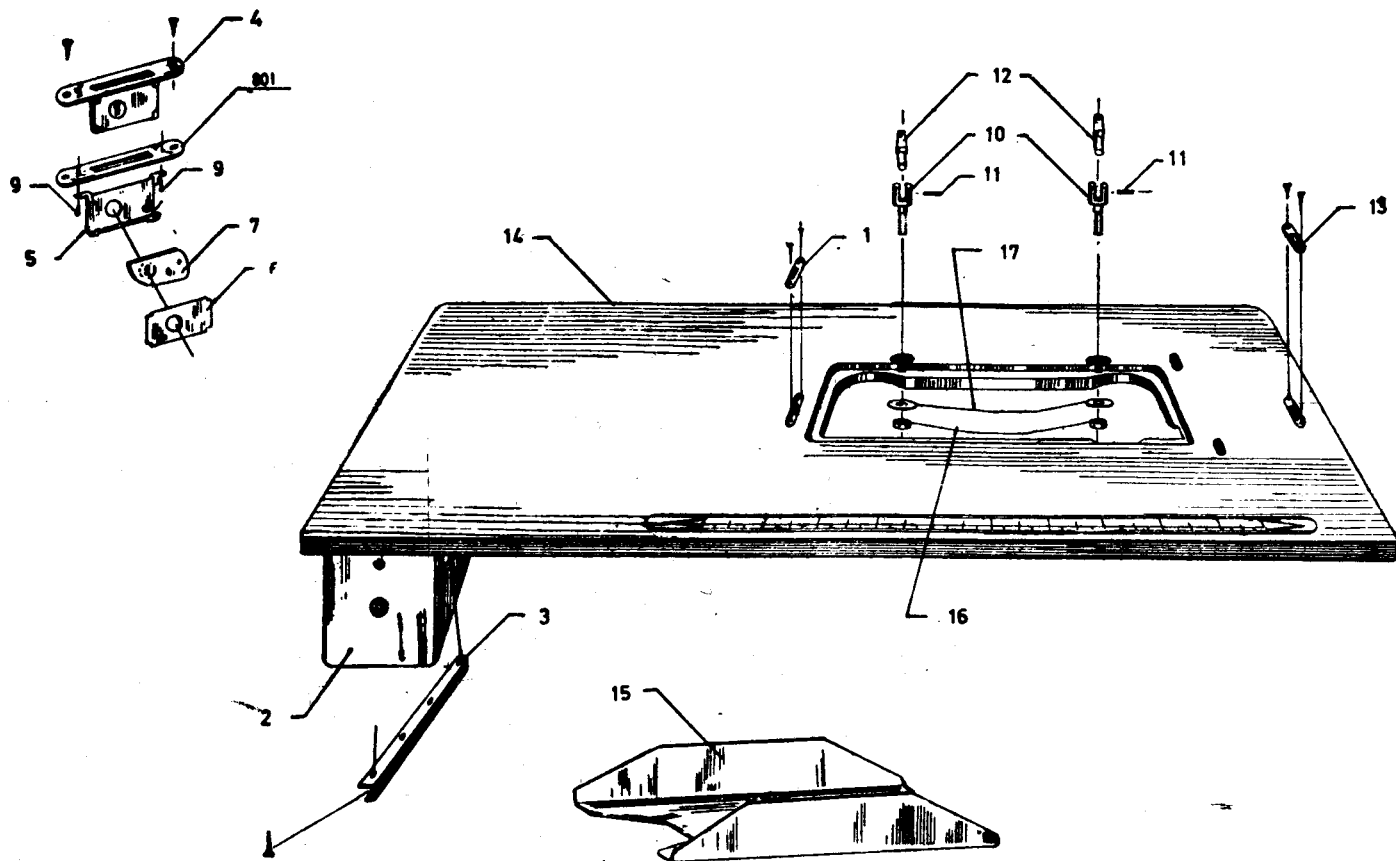

FIG. 19 TABLE ASSEMBLY
**2.19 Table Assembly — See Fig. 19.**